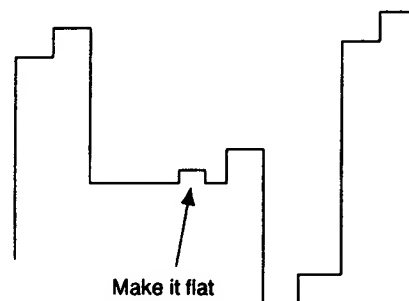

Fig. 5-17
- 5) Adjust **PHASE NTSC 358 NOR** so that the burst section of the output waveform will be straight. (Fig.5-17)
- 2) Make adjustment in the same way as 10-1. shown above by means of **PHASE NTSC 443 ACC OFF**. (Fig.5-17)